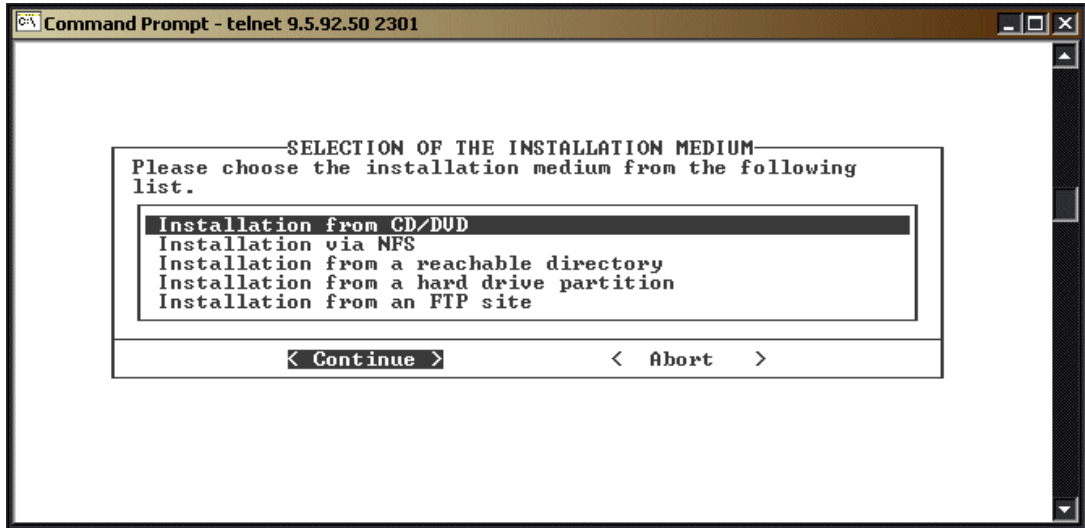

Figure 11-24 YaST Installation menu
9. From the YaST Installation menu (Figure 11-24), select the **Installation from CD/DVD** option. You can finish the installation following the installation menu.